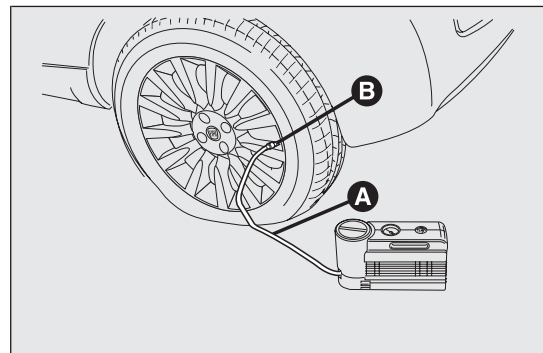

fig. 152
- Apply the handbrake. Unscrew the tyre valve cap, take out the filler hose A fig. 152 and tighten the ring nut B on the tyre valve;